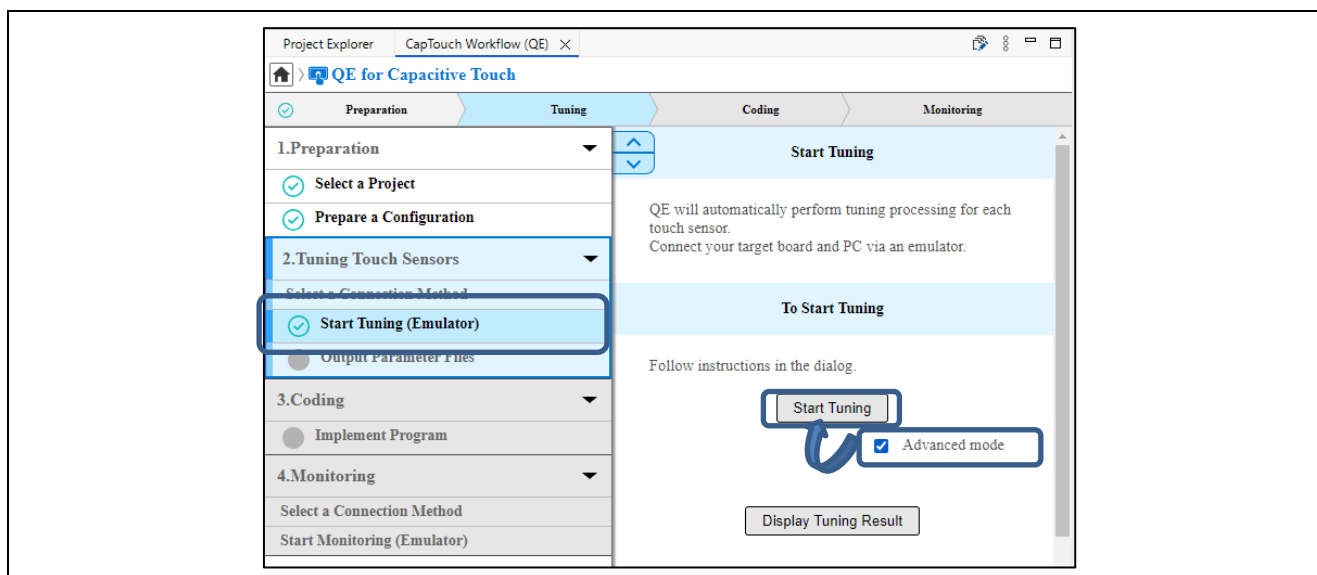

Figure 1-4 Tuning with "Advanced mode"
Figure 1-4 shows the Cap Touch workflow (QE). Tuning can be performed from "2. Tuning Touch Sensors". Tuning by checking the "Advanced mode" checkbox under "Start Tuning".